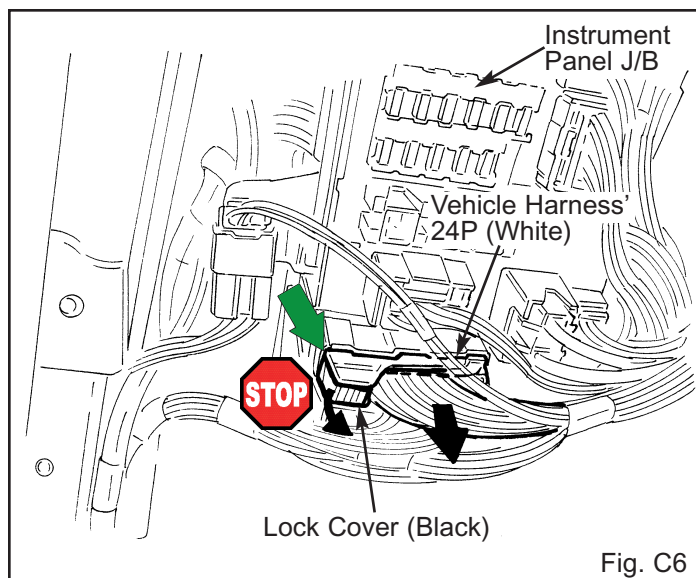

Fig. C6
- ➔ 11. Locate and release the lock of the white 24P connector from the Instrument Panel J/B. (Fig. C6)
12. Disconnect the white 24P connector. (Fig. C6)